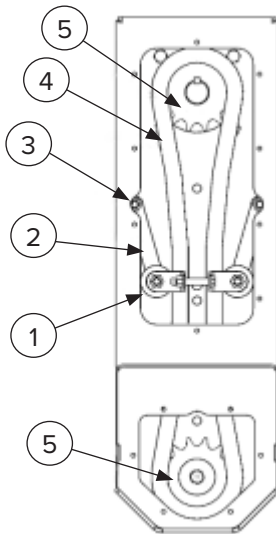

Figure 13
NOTE: The gauge wheel can also be adjusted up / down at the spindle mount arm (Item 5) [Figure 13].
2. Remove the upper access cover (Item 1) [Figure 13] to perform inspection. Use inspection chart below.
3. Tighten nut (Item 3) [Figure 13] until snug, back off 1/2 - 3/4 of a turn. The tensioner arms (Item 2) [Figure 13] should swing freely.
✓	Inspect for worn tensioner rollers (Item 1) [Figure 13].
✓	Inspect the chain (Item 4) and sprockets (Item 5) [Figure 13] for excessive wear.